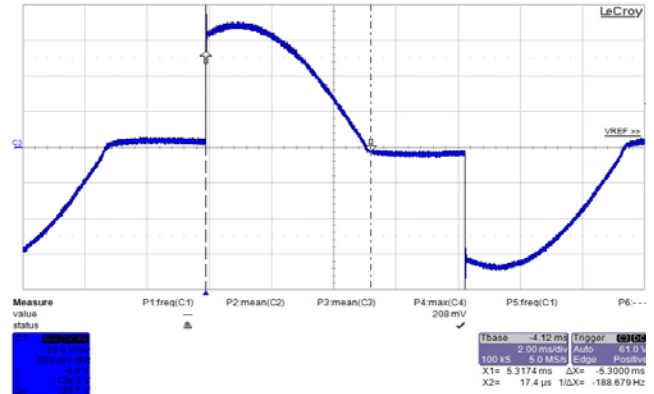
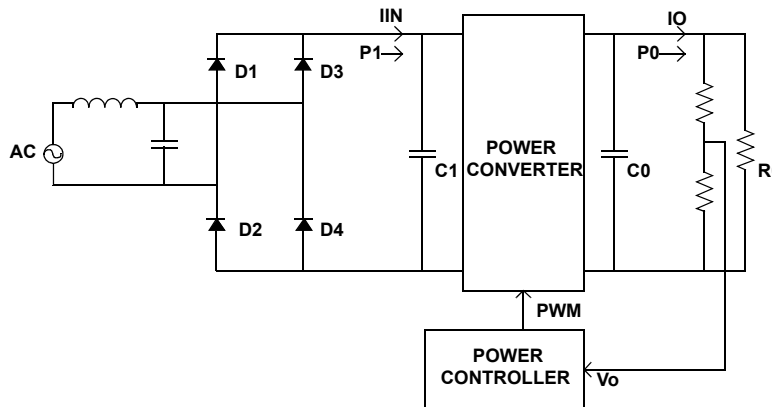

FIGURE 3. TYPICAL VOLTAGE AFTER THE TRIAC DIMMER
FIGURE 4. VOLTAGE FOLLOWER BLOCK DIAGRAM
Unlike the active power factor correction converters, a voltage follower works in discontinuous conduction mode with comparatively constant duty ratio (D) within each utility cycle. There is no need for a PFC controller, or input voltage/current sense circuit. A simplified block diagram is shown in Figure 4. A typical waveform of the voltage after a triac dimmer is shown in Figure 3, where high dv/dt is noticed as the triac is turned on. A small capacitor C₁ is recommended here to filter out the switching noises. C₁ should be very small so that the voltage across it follows closely the rectified input voltage |V_{AC}|. An Electrolytic